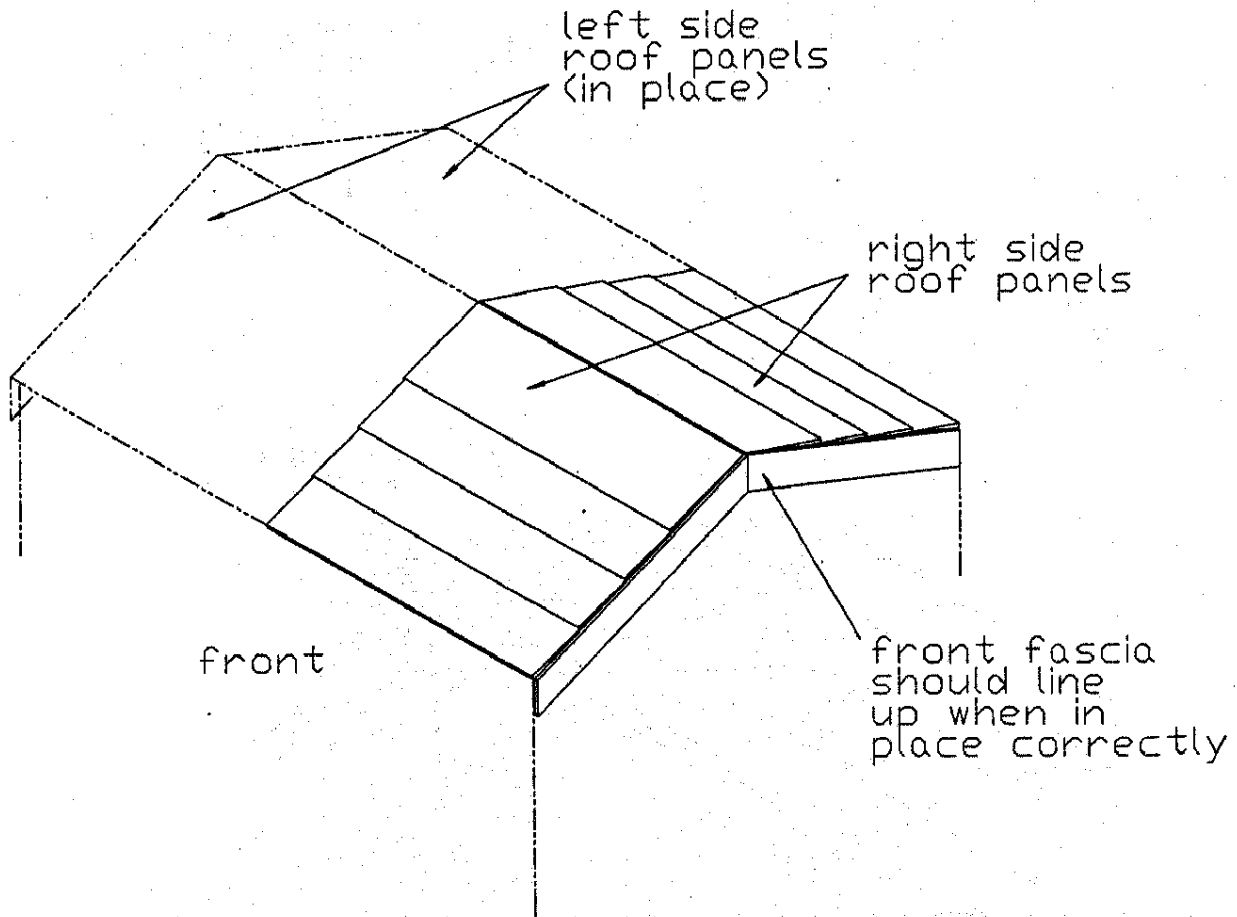

Figure D2
3. Repeat the same procedure with the third and fourth roof panels [see Figure D2]. Check the flush matching ends of the gable fascia boards, and seat cuts for proper fitting. The fascia boards should have a slight gap between them.